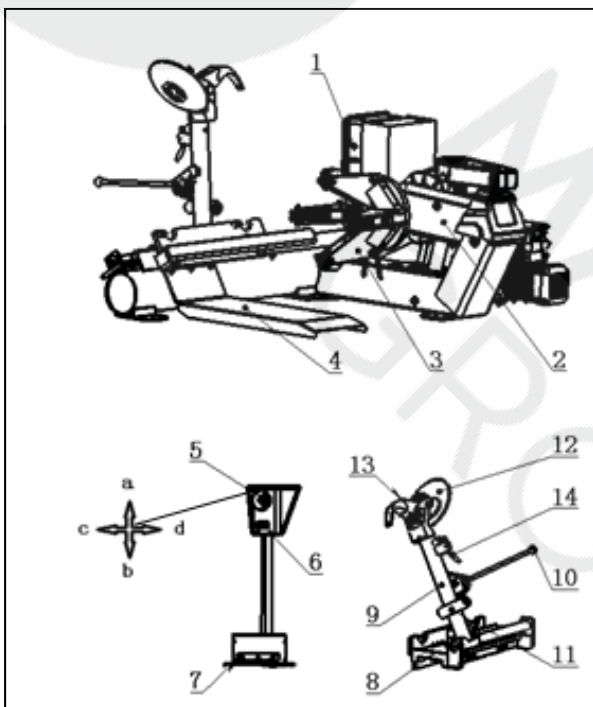

Fig1
☞ Main operation parts indicated in Fig 1
6) Press downwards the crowbar and lower the wheel until the distance from the rim of the wheel to the nose tool is 5 mm (as Fig 1 0) .
8) Move the tool bracket to the inside of the tire and lean the circular bead breaking disk firmly against the edge of the tire. Counter clockwise rotate the wheel making the internal edge of the tire completely come off the wheel and the whole tire is detached. (as Fig 1 2)
3) Clamp the pliers at the highest position outside of the rim of the wheel(as Fig 1 3)